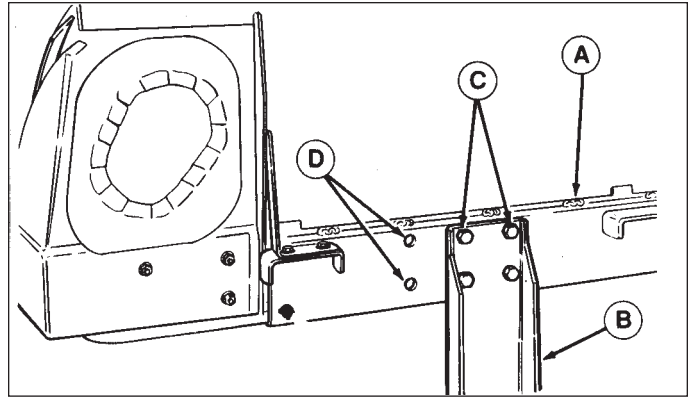

Figure 14.
1. Install horizontal bag support (A, figure 14) to upright catcher support (B) holes as shown. Note that the open set of holes (D) is toward the discharge side of mower. Install four 3/8-16 x 7/8 capscrews (C) from the front and lightly secure with flange lock nuts.